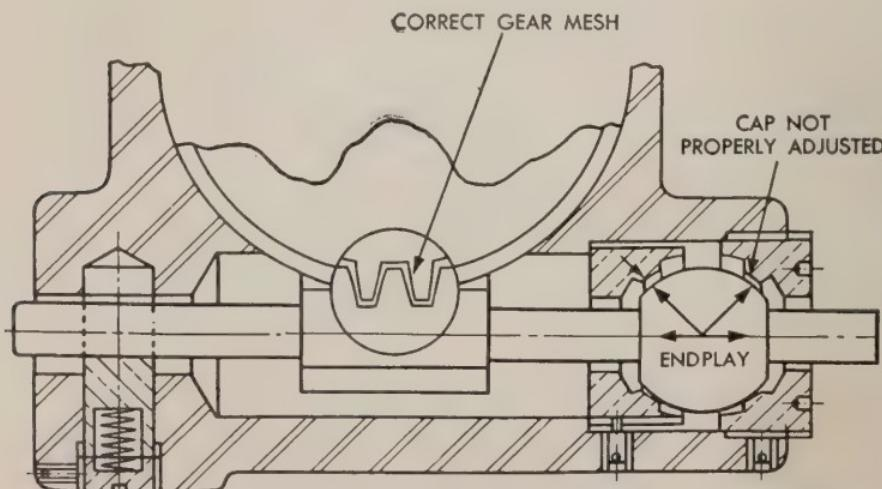

Figure 22. Endplay in worm shaft.
d. *Endplay.* "Endplay" is the term applied to lengthwise movement of a shaft (fig. 22). Such movement, in a moderate degree, is acceptable when it does not contribute to the total backlash. Shafts are normally restricted longitudinally by shoulders, collars, thrust bearings, ball caps, and sockets or by a combination of these. Ball